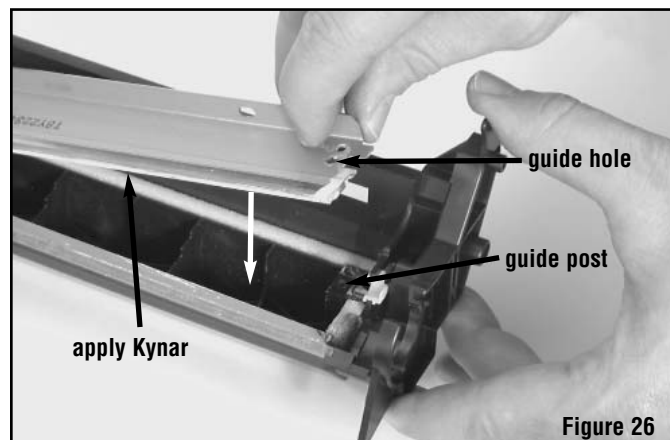

Figure 26
- c. Orientate the Wiper Blade so that the guide hole is directly over the guide post on the cartridge body as shown in figure 26.